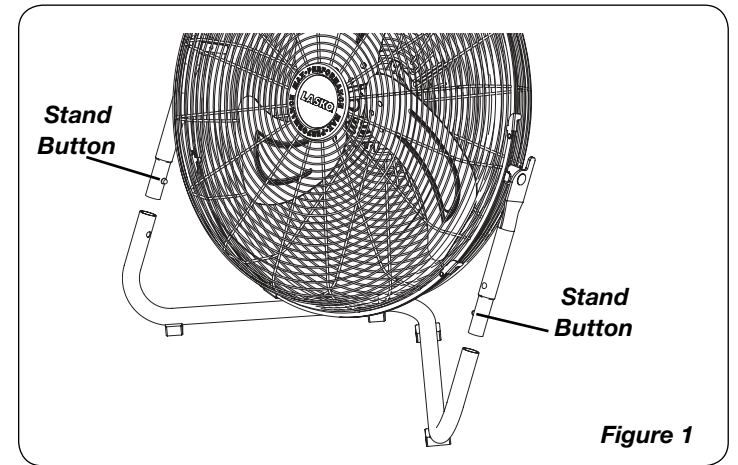

Figure 1
(Figures 1 and 2)
2. Align the two sides of the fan to the stand (Figure 1). By pressing in the stand buttons - push down until they lock in place.